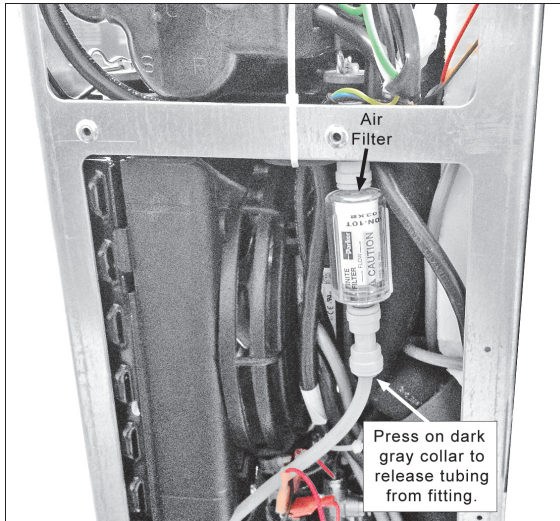

Figure 1 - Air Compressor Air Filter
The air compressor (Fig. 1) is located in the left rear of the enclosure.
- 4) Note the orientation of the air filter (Fig. 1).